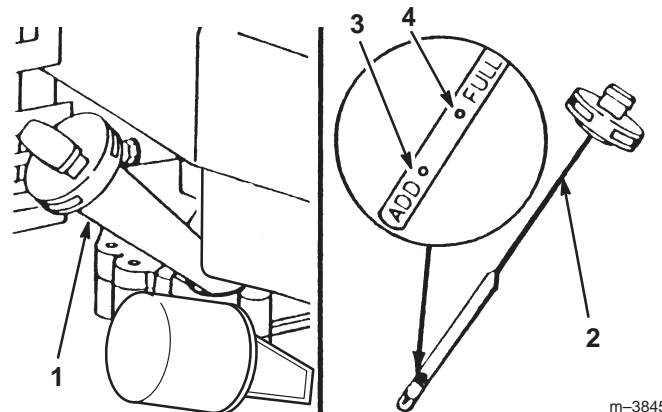

Fig. 1 – Checking Oil Level
Fill crankcase with SAE 30 oil until oil level reaches FULL mark on dipstick as shown in Figure 1. The maximum crankcase capacity is 22 ounces (0.65 Liter). On models equipped with an oil filter, the maximum crankcase capacity is 26 ounces (0.78 Liter). Use any high quality detergent oil having the American Petroleum Institute (API) “service classification”—SF, SG SH, or SJ.
Before each use or every five hours, ensure oil level is between ADD and FULL marks on dipstick (Fig. 1). Add oil if level is low.
2. Remove dipstick by rotating cap counterclockwise 1/4 turn (Fig. 1).
3. Wipe dipstick and insert it into oil fill tube. Rotate cap clockwise 1/4 turn. Then remove dipstick and check level of oil (Fig. 1). If level is low, add only enough oil to raise level to FULL mark on dipstick. **DO NOT FILL ABOVE FULL MARK BECAUSE ENGINE COULD BE DAMAGED WHEN STARTED. POUR OIL SLOWLY.**
4. Insert dipstick into oil fill tube and rotate cap clockwise 1/4 turn to lock (Fig. 1).